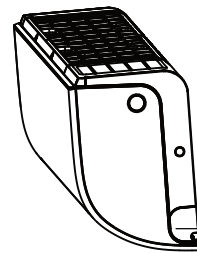

Fig. 3.8
2. If the wall hole is behind the unit, keep the knock-out panel in place. If the wall hole is to the side of the indoor unit, remove the plastic knock-out panel from that side of the unit. (See **Fig. 3.8**). This will create a slot through which your piping can exit the unit. Use needle nose pliers if the plastic panel is too difficult to remove by hand.